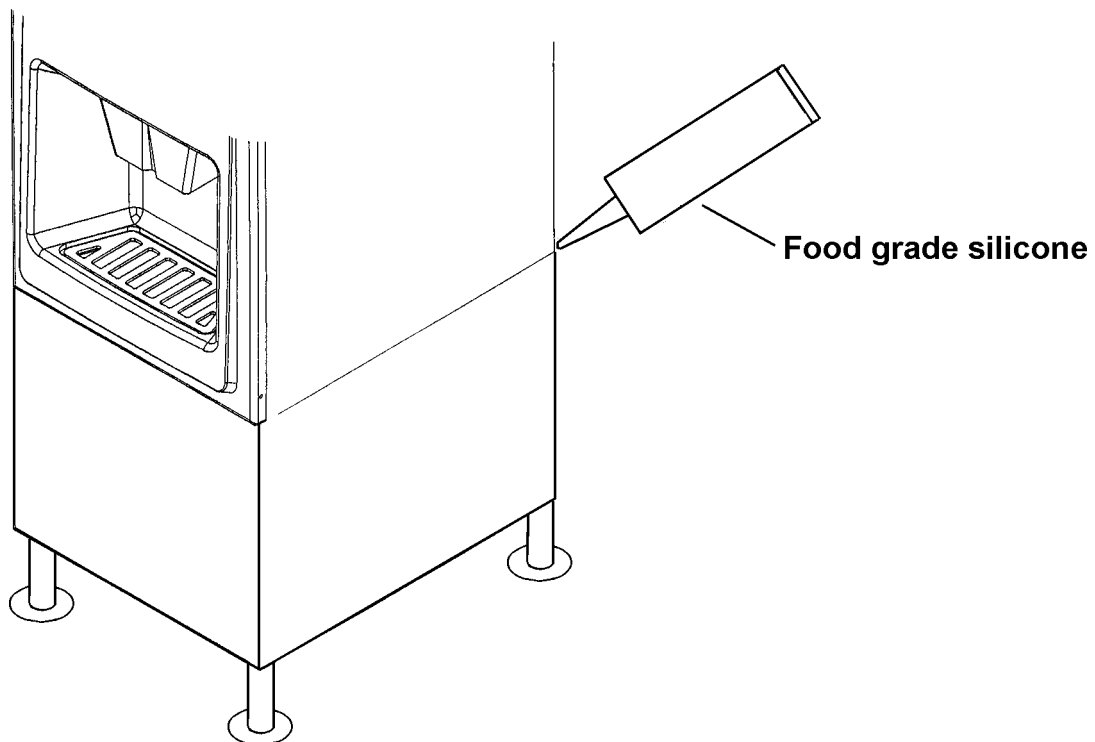

Fig. 2
- 5) You must secure the ice dispensing bin to the Cabinet Stand with four (4) bolts (Cabinet Stand accessory).
- 6) Seal the seam all around between the dispensing bin and the Cabinet Stand with food grade silicone. See Fig. 2.